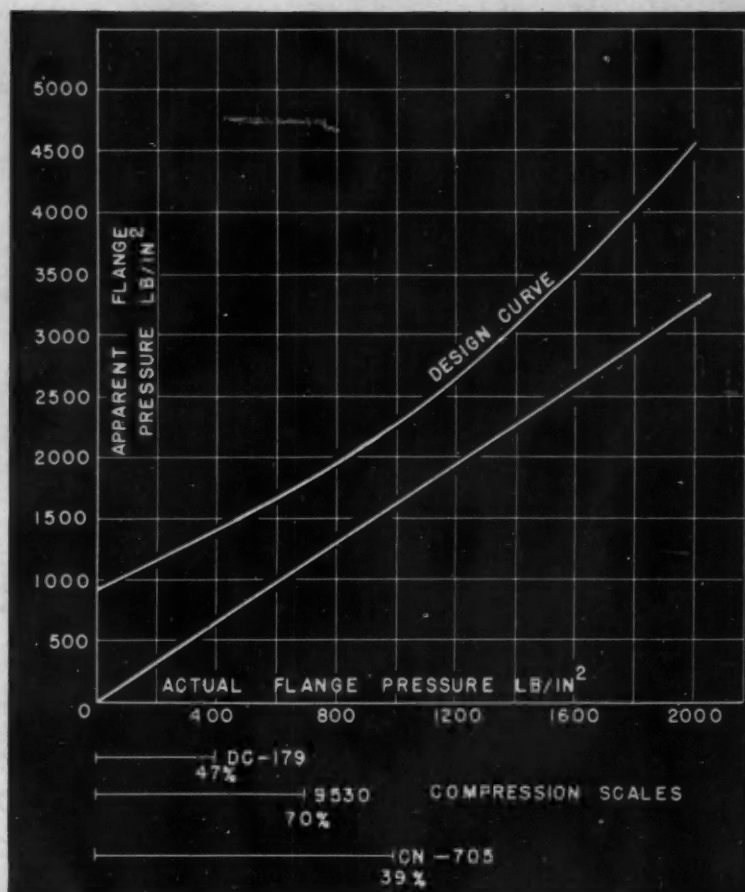
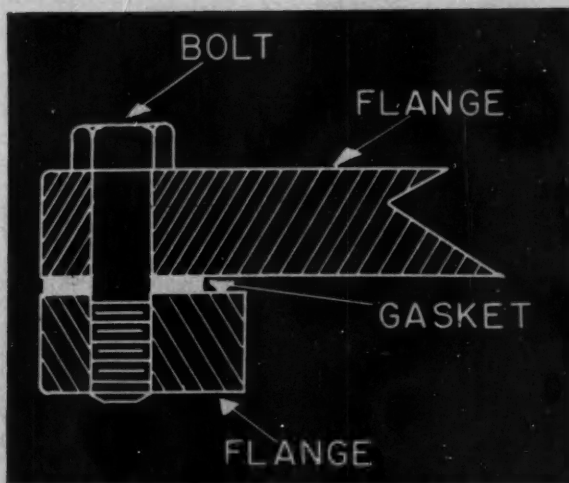

Fig. 1—Chart by which bolt torques on a joint assembly can be translated to true gasket loads.
Fig. 2—Sample flanged assembly on which true gasket loads may be calculated by use of chart in Fig. 1.
**B**Y use of a recently developed chart (Fig. 1) the designer can get considerable help in selecting gaskets for existing flange assemblies. The chart permits him to translate bolt torques on a joint assembly to true gasket loads. Thus, it provides a basis for determining the minimum loads which, in many cases, are the practical criteria of sealability.
get true gasket loads on a flanged assembly like the one shown in Fig. 2. In the field of low internal pressures, this assembly is commonly used for sealing oil, gasoline, water, steam, and other media. Some examples are the flanged joints on automotive pumps, rocker arm assemblies, oil pans, and oil pumps. Generally speaking, the gaskets employed are made from cork composition, cellulose fiber, and asbestos fiber, combined with varying proportions of rubber.
the mating threads. This chart (Fig. 1), however, reconciles this difference, thereby permitting the designer to translate bolt torques on a joint assembly to true gasket loads. This figure is applicable to any design of the type illustrated, but only if certain rather broad conditions are imposed on the design to minimize frictional variations in bolt efficiency.
Actual gasket loads vary, of course, with variations in bolt efficiency. So, the apparent flange pressure calculated for a design cannot be related to just one actual flange pressure value. Instead, it is possible to speak only in terms of a range of actual values. The lower limit of this range is obtained from the design curve of Fig. 1; while the upper limit is the apparent value itself. Suppose the apparent value is 1375 psi. The actual flange pressure falls somewhere in the range extending from 400 to 1375 psi. By recognizing certain thread conditions one could guess in which half of the range the actual flange pressure is most likely to be.
The straight line of the graph of Fig. 1 gives another actual flange pressure value which roughly coincides with the mid-point of the range as described above. For this reason it could be referred to as a most probable value.
The compression scales below the graph in Fig. 1 are designed so that the minimum sealing load specified for a gasket can be used in connection with the above method of estimating gasket loads. To avoid crowding, only three gaskets are shown in Fig. 2; each represents one of a general class. From current information, however, it is possible to list a variety of gaskets capable of meeting almost
It should be understood that a seal point is a minimum loading condition—not a point of overload. It must be equalled or exceeded. Higher loads will usually result in tighter seals. If for some reason it is mandatory to impose greater loads on a gasket than are recommended in Fig. 1, no harm can be done to the gasket as long as the loading is distributed uniformly. In fact, the rupture points for the materials listed in Fig. 1 range upward from 4000 psi on the actual flange pressure scale.
In practice the use of Fig. 1 is somewhat arbitrary. It is not intended to be a substitute for, but rather an adjunct to, the designer's engineering judgment and experience.
From the bolt torque settings on the design along with Fig. 1, the range of actual flange pressures is found according to the procedure already discussed. The idea basic to gasket selection is that the flange assembly must operate at or above the seal point for the selected material. To be certain of this, the designer selects only those gaskets whose seal points are less than or equal to the lower limit on the range of actual flange pressure values for the design. This amounts to assuming the assembly contains bolts of low efficiency, thereby producing